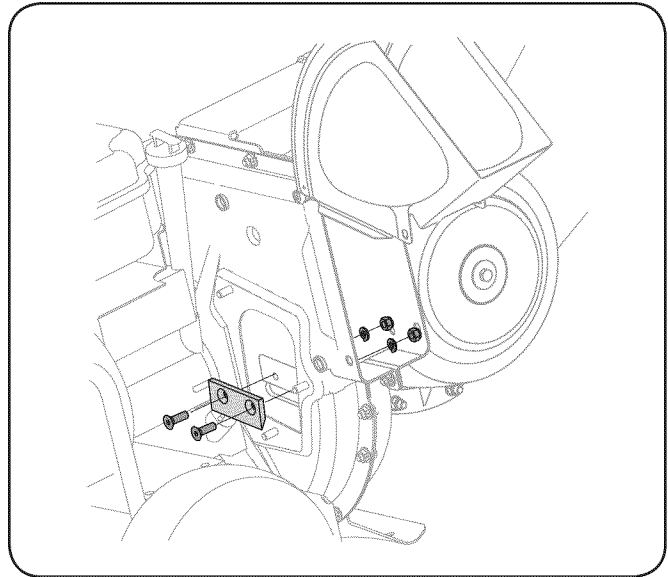

Figure 7-2
6. Remove the blade by removing the internal hex screws, lock washers, and hex nuts which secure it to the impeller. See Fig. 7-2. Retain the hardware.